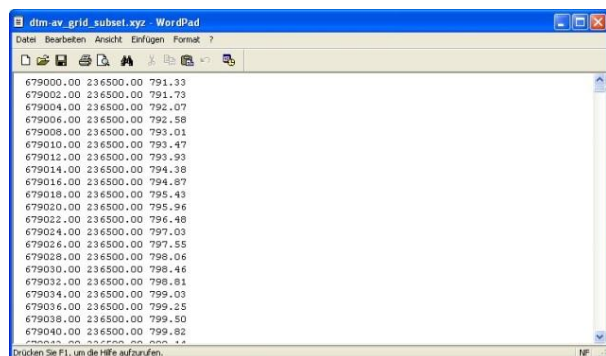

Figure 3.2: Example ASCII X, Y, Z single space data.
2. ASCII X, Y, Z regular, single space data (Figure 3.2), irregular data not supported!